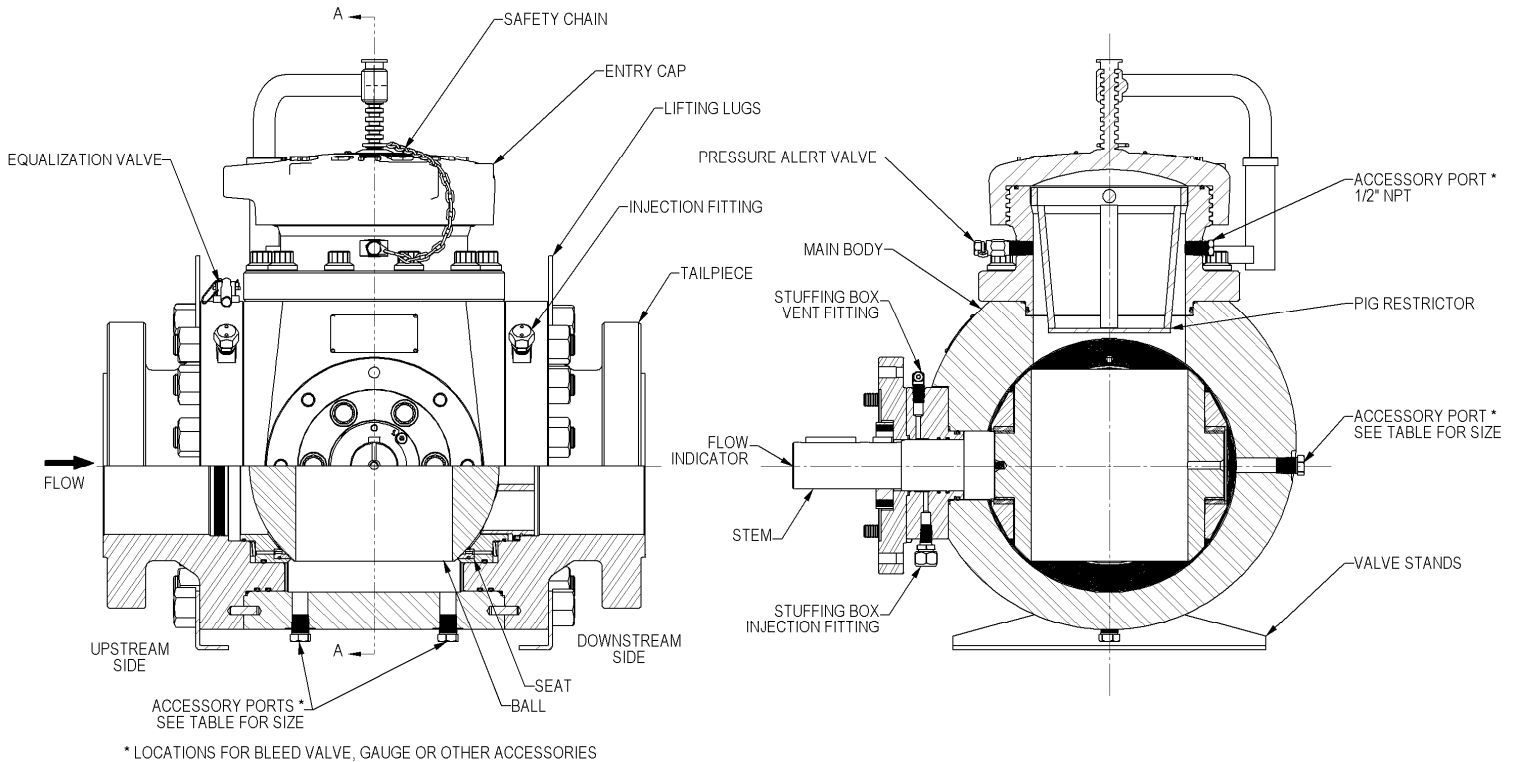

Figure 2: Argus Pig Valve Model “D” c/w Pressure Alert Valve, Integral Equalization Valve
- 5) Ensure that at least one of the accessory ports in the Pig Valve has been equipped with a bleed valve (see Figure 2 & Table 1).
(Refer to Figure 2 & 5)